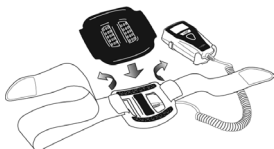

Figure 2
1. Remove liner pad. (Figure 2)
5. Replace liner pad. (Figure 2)